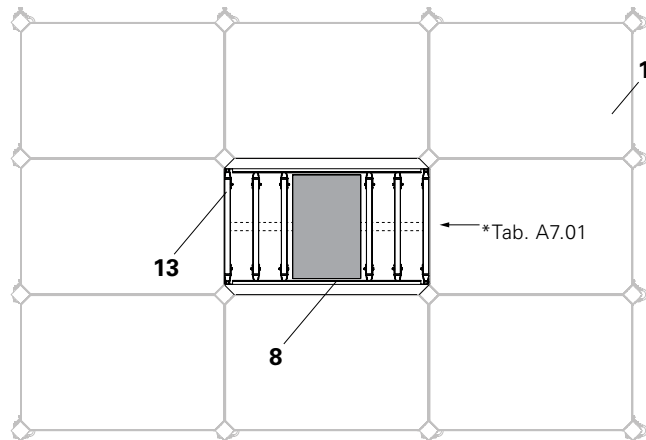
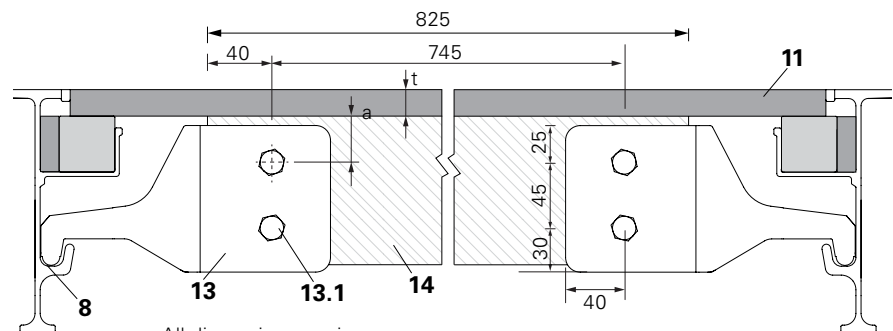
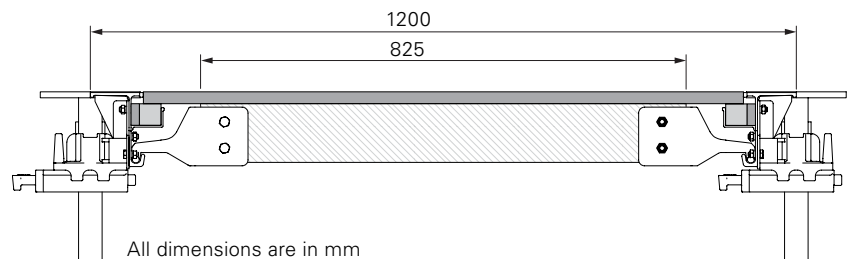

Fig. A7.01
Fig. A7.02
Fig. A7.03
1. Form the slab with panel ADP (1) as close as possible to the column.
2. Place the filler beam ADF (8) on the drophead flyplate pin in the longer direction. (Fig. A7.01)
3. Cut the timber (14) size 50 x 100 mm as per required length.
4. Pre-assembly of cross beam head (13) and timber (14) size 50 x 100 mm should be done on ground. Drill the timber (14) and attach the timber to cross beam head with 2 no. of bolts and nuts (M10 x 80) (13.1) (Article no. 710593 and 710234) on each side. (Fig. A7.02), (Fig. A7.03) and (Tab. A7.02)